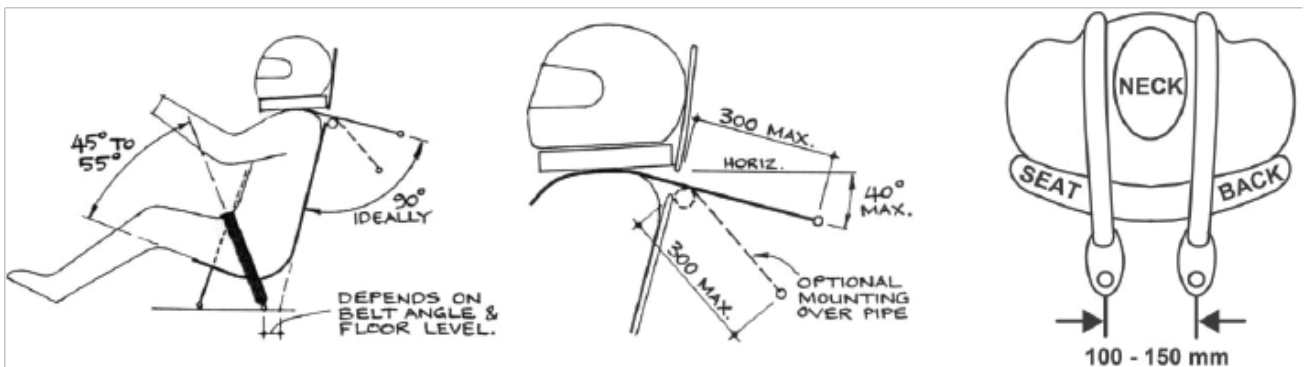

Fig. 5a
- 27.5. Shoulder Harness to be 100mm to 150mm apart and anchored at a 45 degree angle from the seat to the roll cage. See Figure 5a (i)
- 27.6. The point where the Shoulder Harness anchors to the roll cage is to be 100mm below shoulder level and be not more than 300mm from that point See Figure 5a(ii).